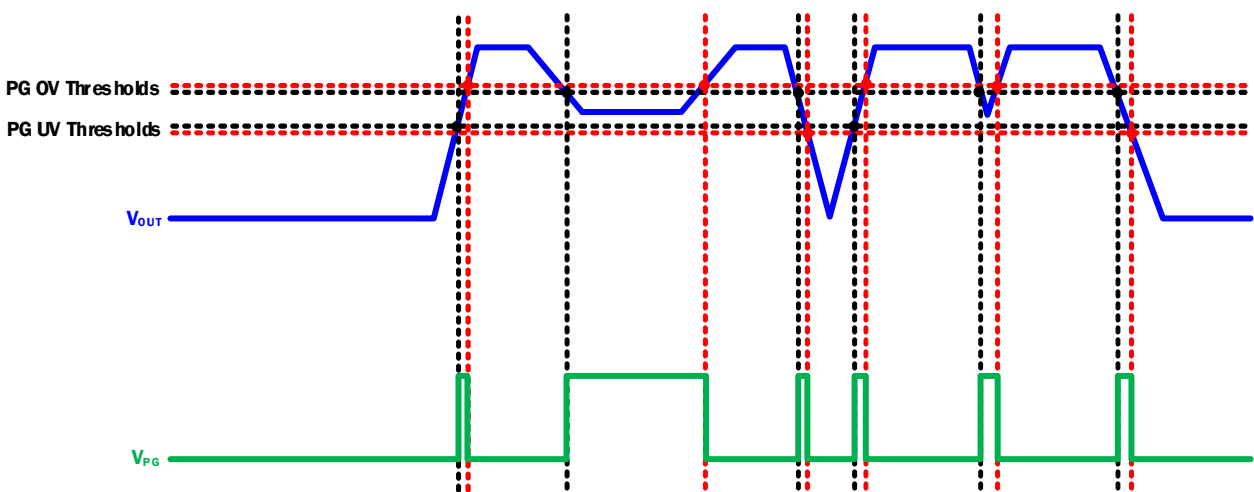

Figure 138. PG Operation
When the output voltage is below the PG Undervoltage (UV) thresholds, the fast-start up circuitry is activated to bring V_{OUT} within the $\pm 10\%$ window. When the output voltage is above the PG Overvoltage (OV) thresholds, a $1\text{k}\Omega$ pull-down resistor connects V_{OUT} to GND to discharge the output capacitor and bring the output voltage back within the $\pm 10\%$ window. Figure 138 illustrates the PG operation.